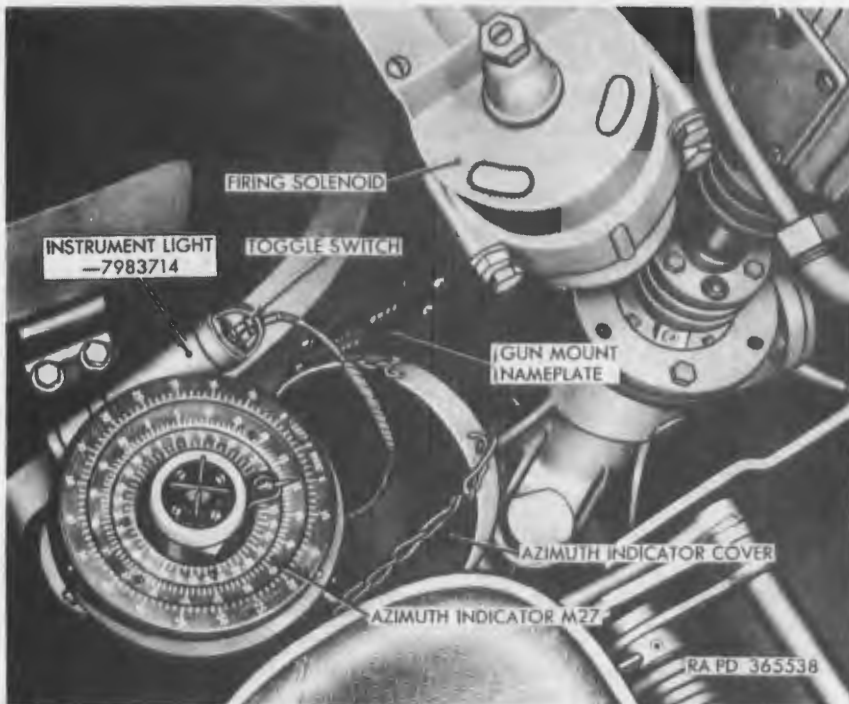

Figure 41. Azimuth indicator M27 and instrument light—7983714.
f. *Azimuth Indicator M27* (fig. 41). The azimuth indicator M27, mounted on the gun mount platform to the left of the sight setter's seat, is geared to the main turret traversing ring gear. This indicator is provided with three graduated scales, three moving pointers, and a reseter knob. It is used to calculate azimuth angles in mils, with respect to the longitudinal axis of the vehicle, during gun mount traversing.
- (4) *Illumination*. The dial of the azimuth indicator M27 is indirectly illuminated by two lamps in the housing which are lighted by operation of the instrument light 7983714 (fig. 41).
g. Instrument Light 7983714 (fig. 41). The instrument light—7983714 is bracket mounted to the gun mount carriage alongside